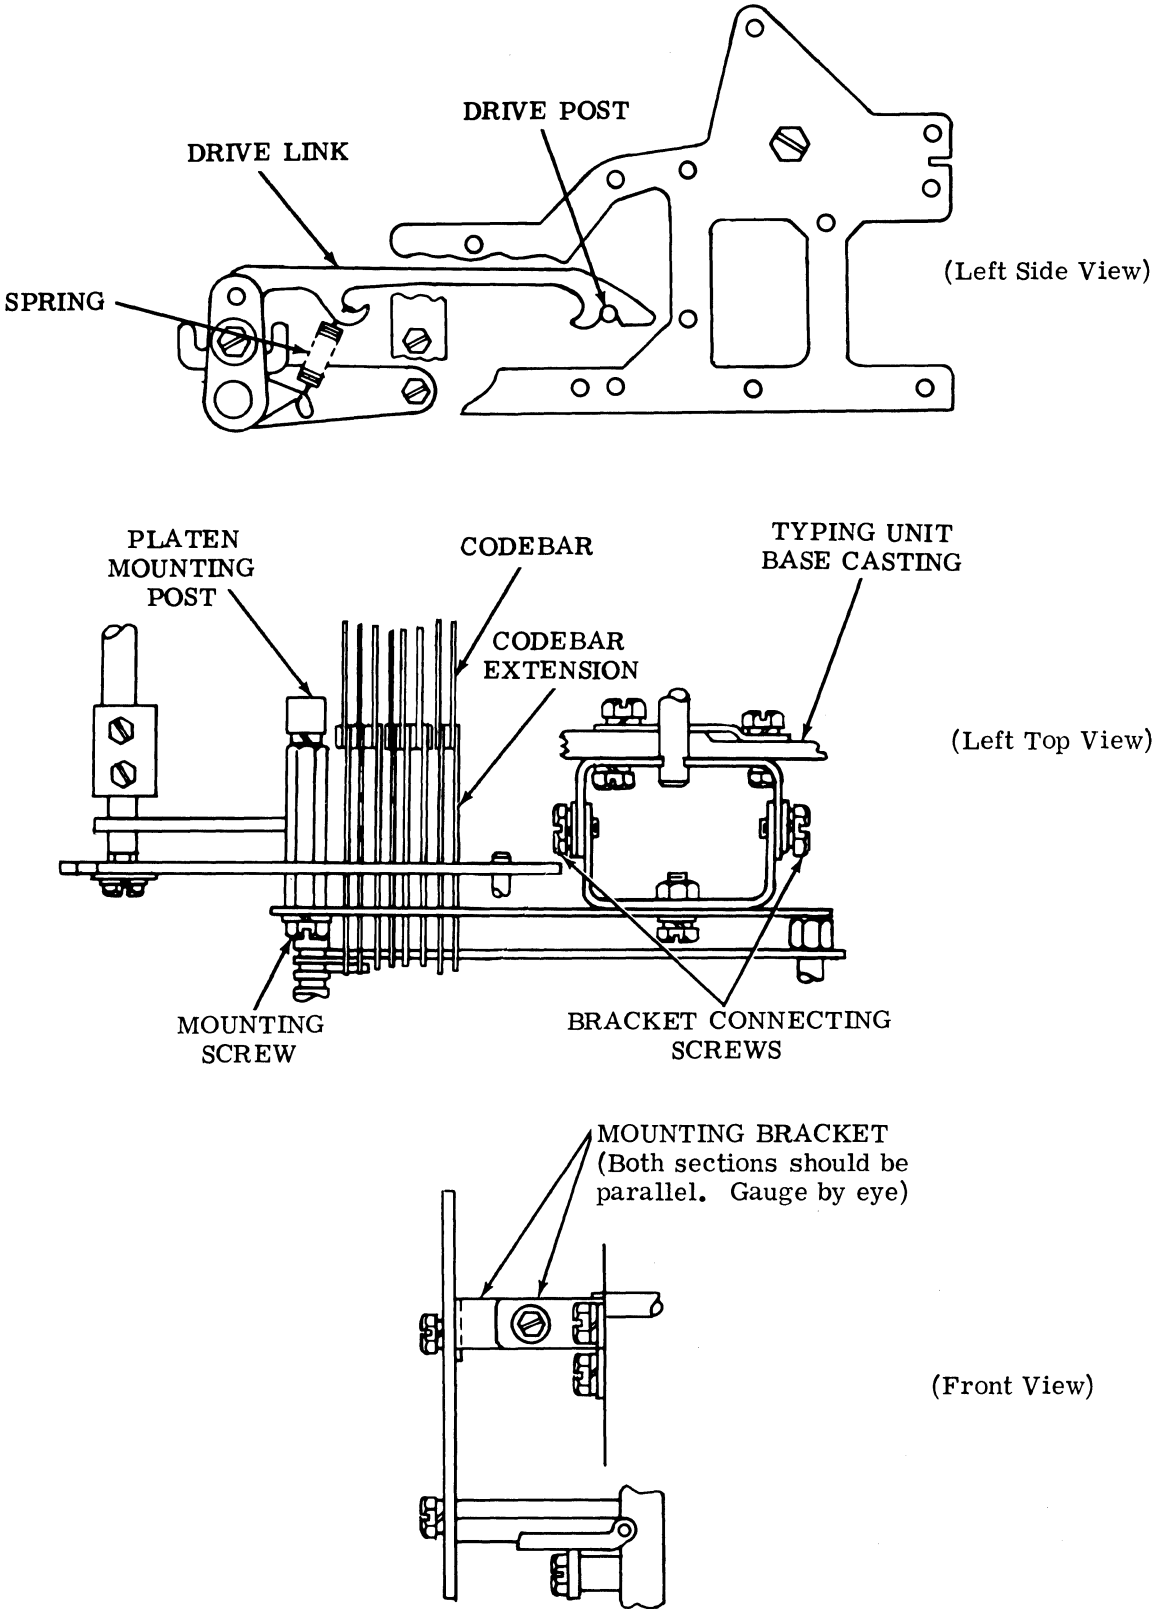

Figure 5 - Tape Punch (Late Design)
2.07 Late Design (Sheet Steel Frame): To remove the tape punch from the typing unit base casting (Figure 5), proceed as follows.